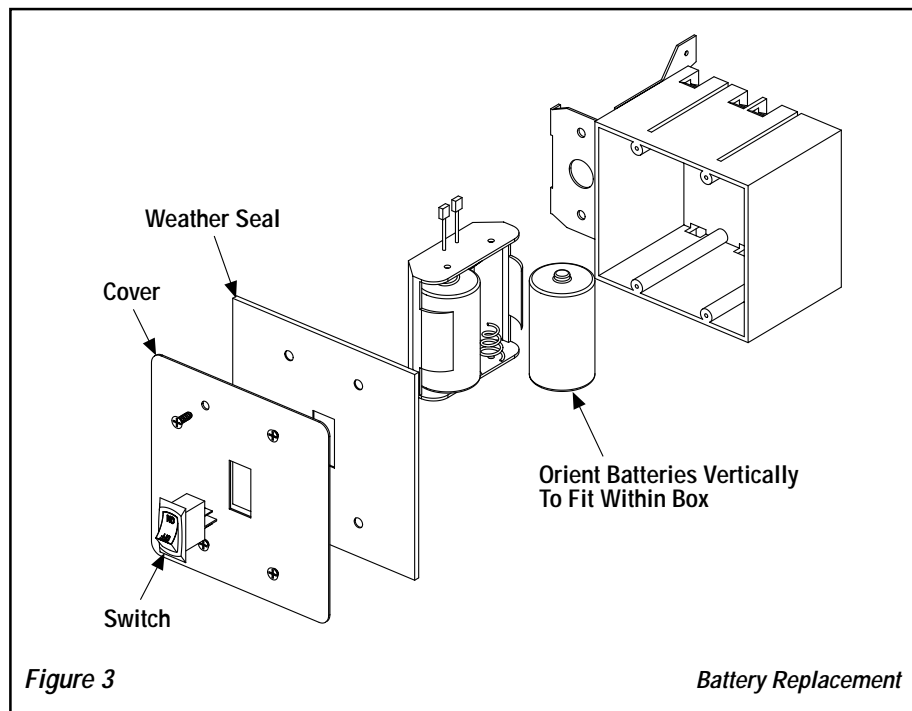

Figure 3
The intermittent ignition system operates on 3 volts provided by two (2) "D" cell batteries. The batteries are located in a pack installed within the J-Box, behind the stainless ON/OFF switch panel. **Refer to Figure 3.**